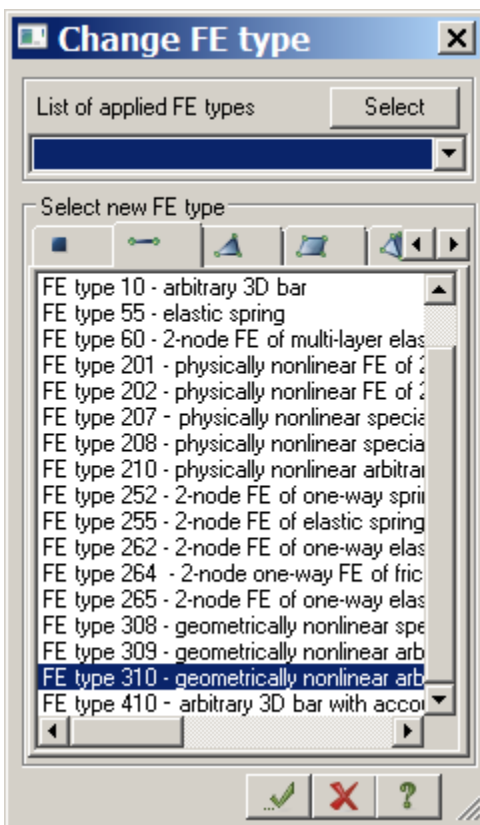

Figure 8.8 Change FE type dialog box
- ⇒ In the **Change FE type** dialog box (see Fig.8.8), in the list of FE types, select **FE type 310 - geometrically nonlinear arbitrary 3D bar (cable)**.